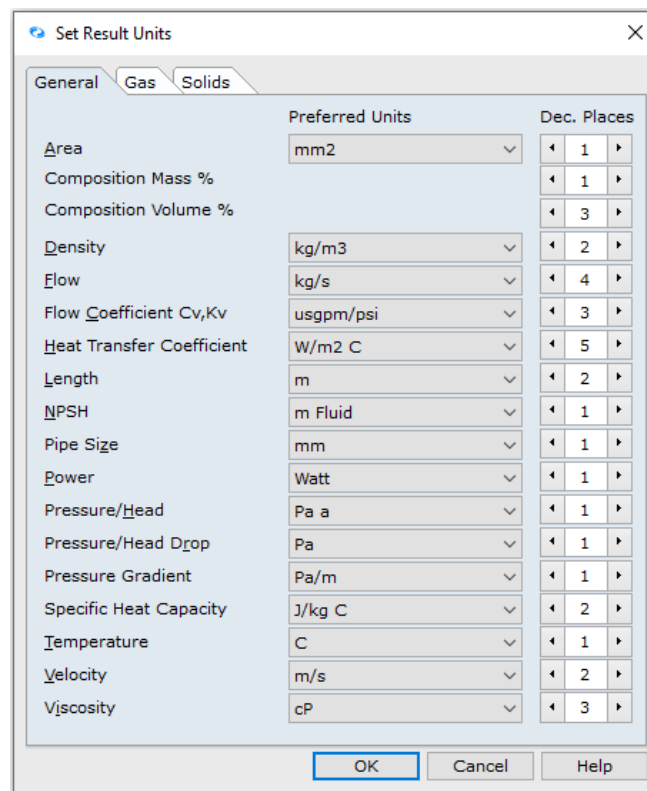

Figure 33: Set Result Units Dialogue Box.
30. Alternatively, you can select F9. This opens a new dialogue box per Figure 33.